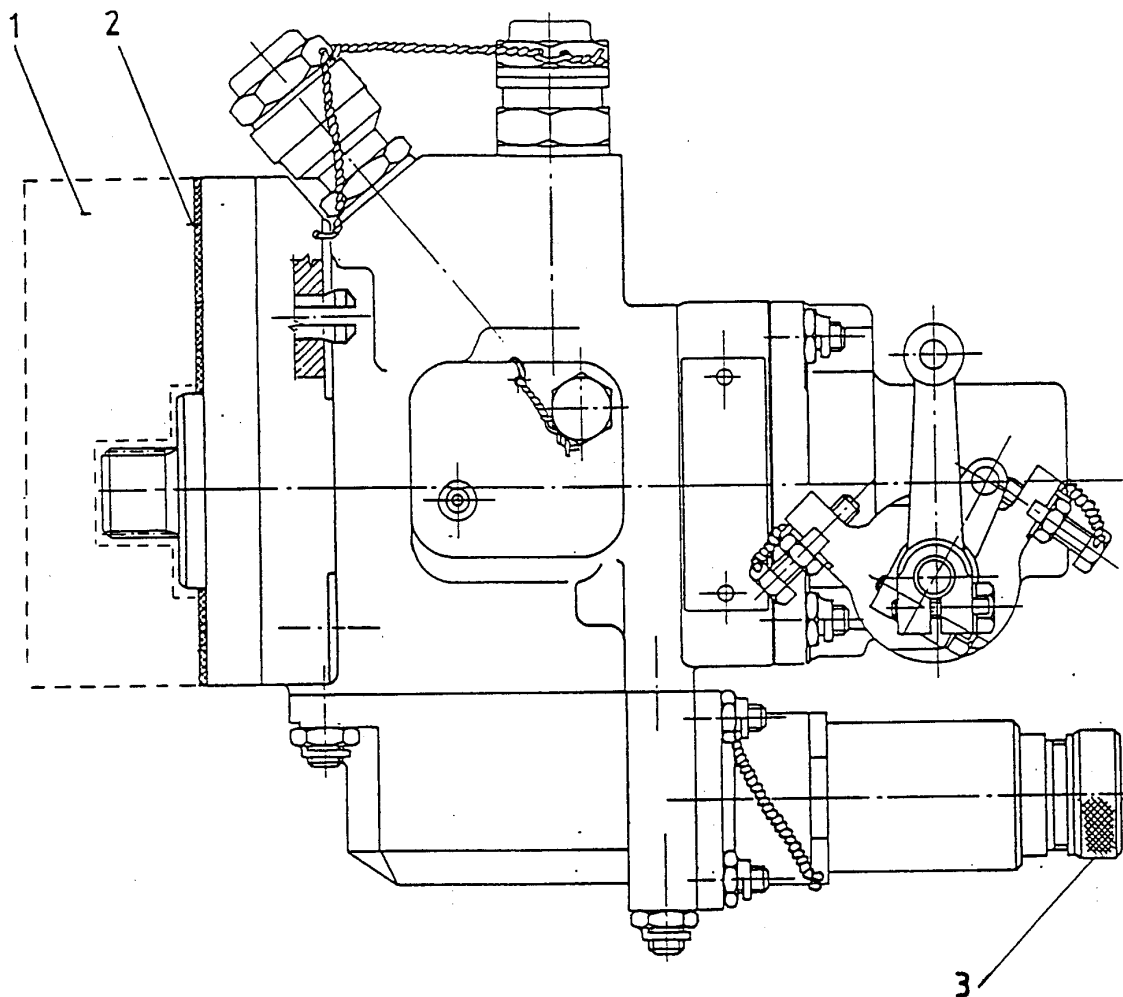
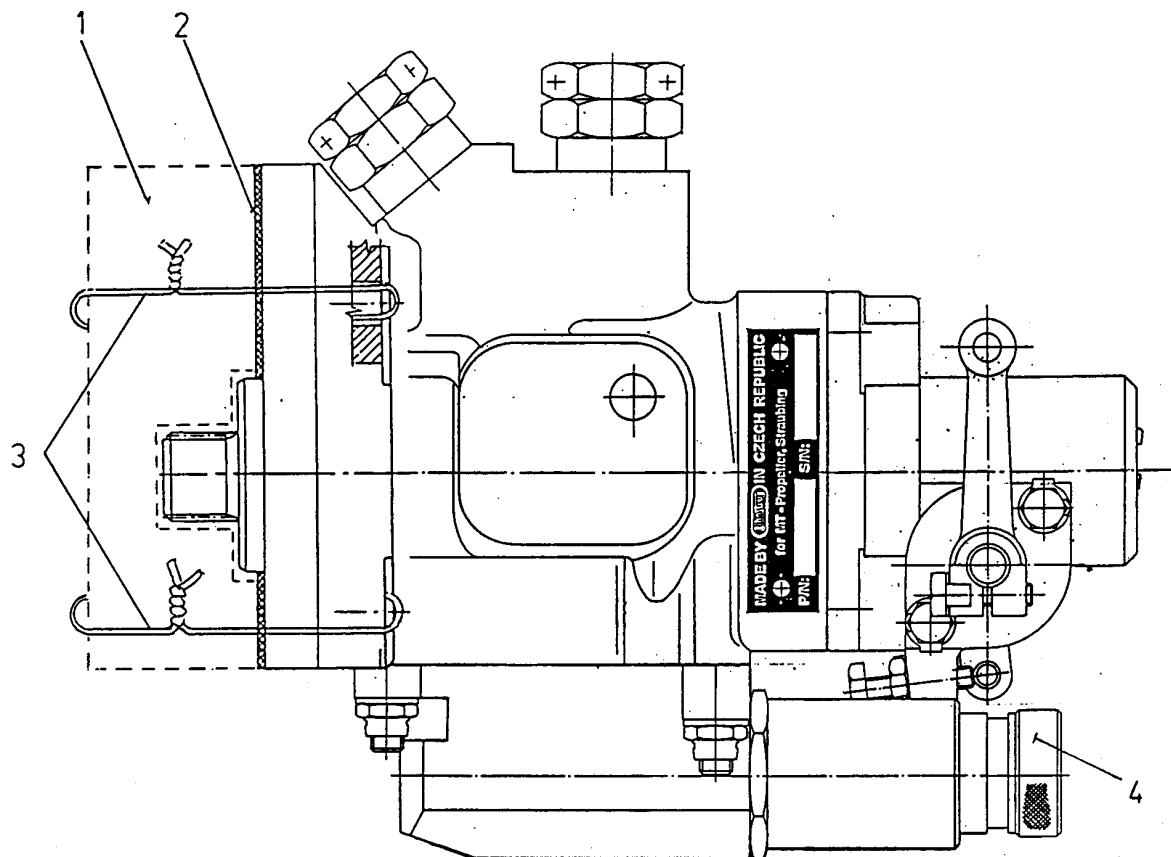

Fig. 14 Covering of governor flange
Fig. 14.1 Covering of governor flange
17.5 Secure governor flange with shipping cap. See fig. 14/fig.14.1. In case of necessity clean the governor with cleaning cloth using petrol.